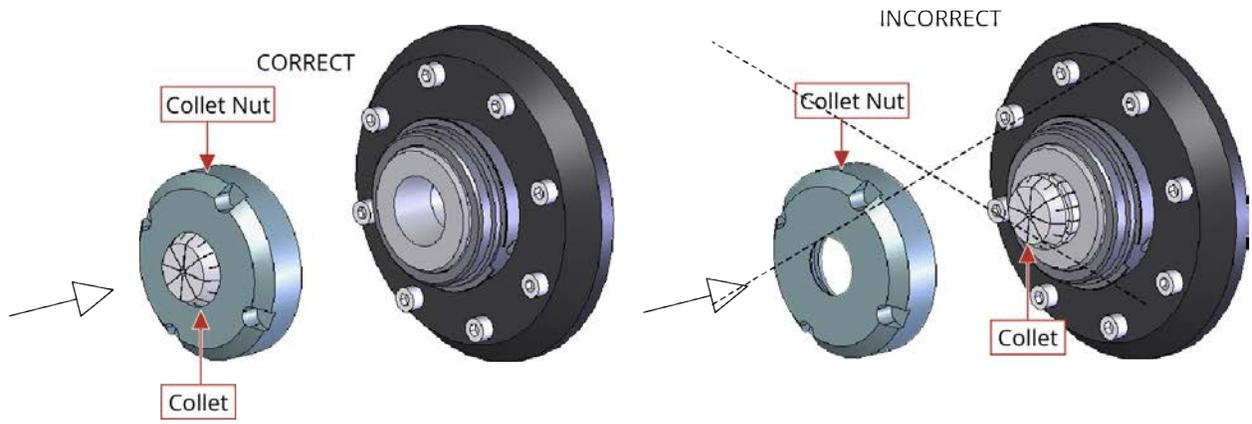

Figure 2-8: Installation Procedure for Collet
- Step 6: Use the collet nut to guide the collet into the stage (Figure 2-8). Make sure that the collet is installed properly in its taper. Be sure that air pressure is still being supplied to the stage so the collet chuck is in the open position.